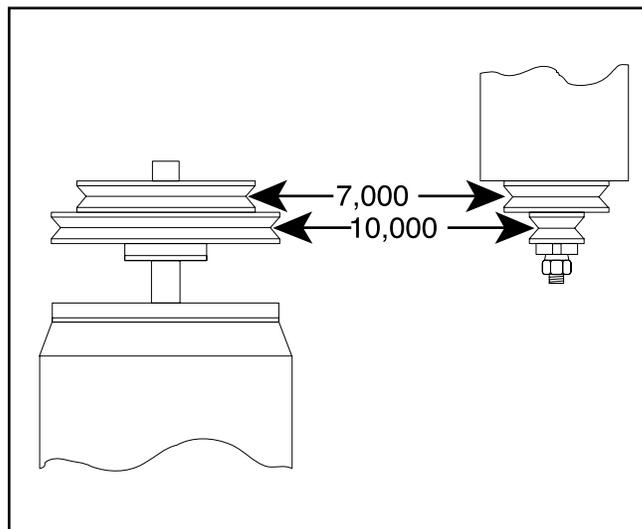

Figure 13. Spindle speed adjustment.
2. Select the desired speed. **See Figure 13.**